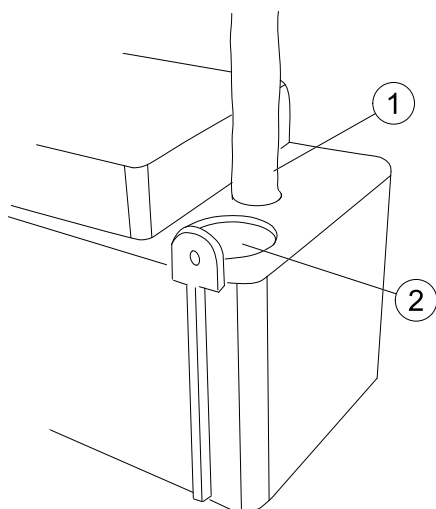

Fig. 1
Connect the discharge tubing, 8x2 mm (figure 1, pos 1) by hand-tighten the cap nut of the check valve in a clockwise direction. Extend the discharge tubing straight up from the pump to the highest point, run the discharge tubing to a drain with downward slope.